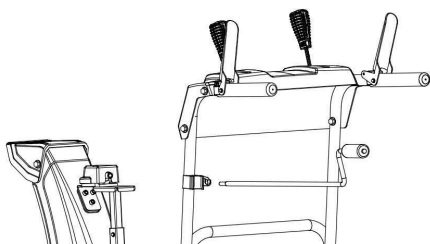

Figure 4
1. Slide Chute Handle through Chute Handle Guide near the Upper Panel, as indicated on Figure 4.